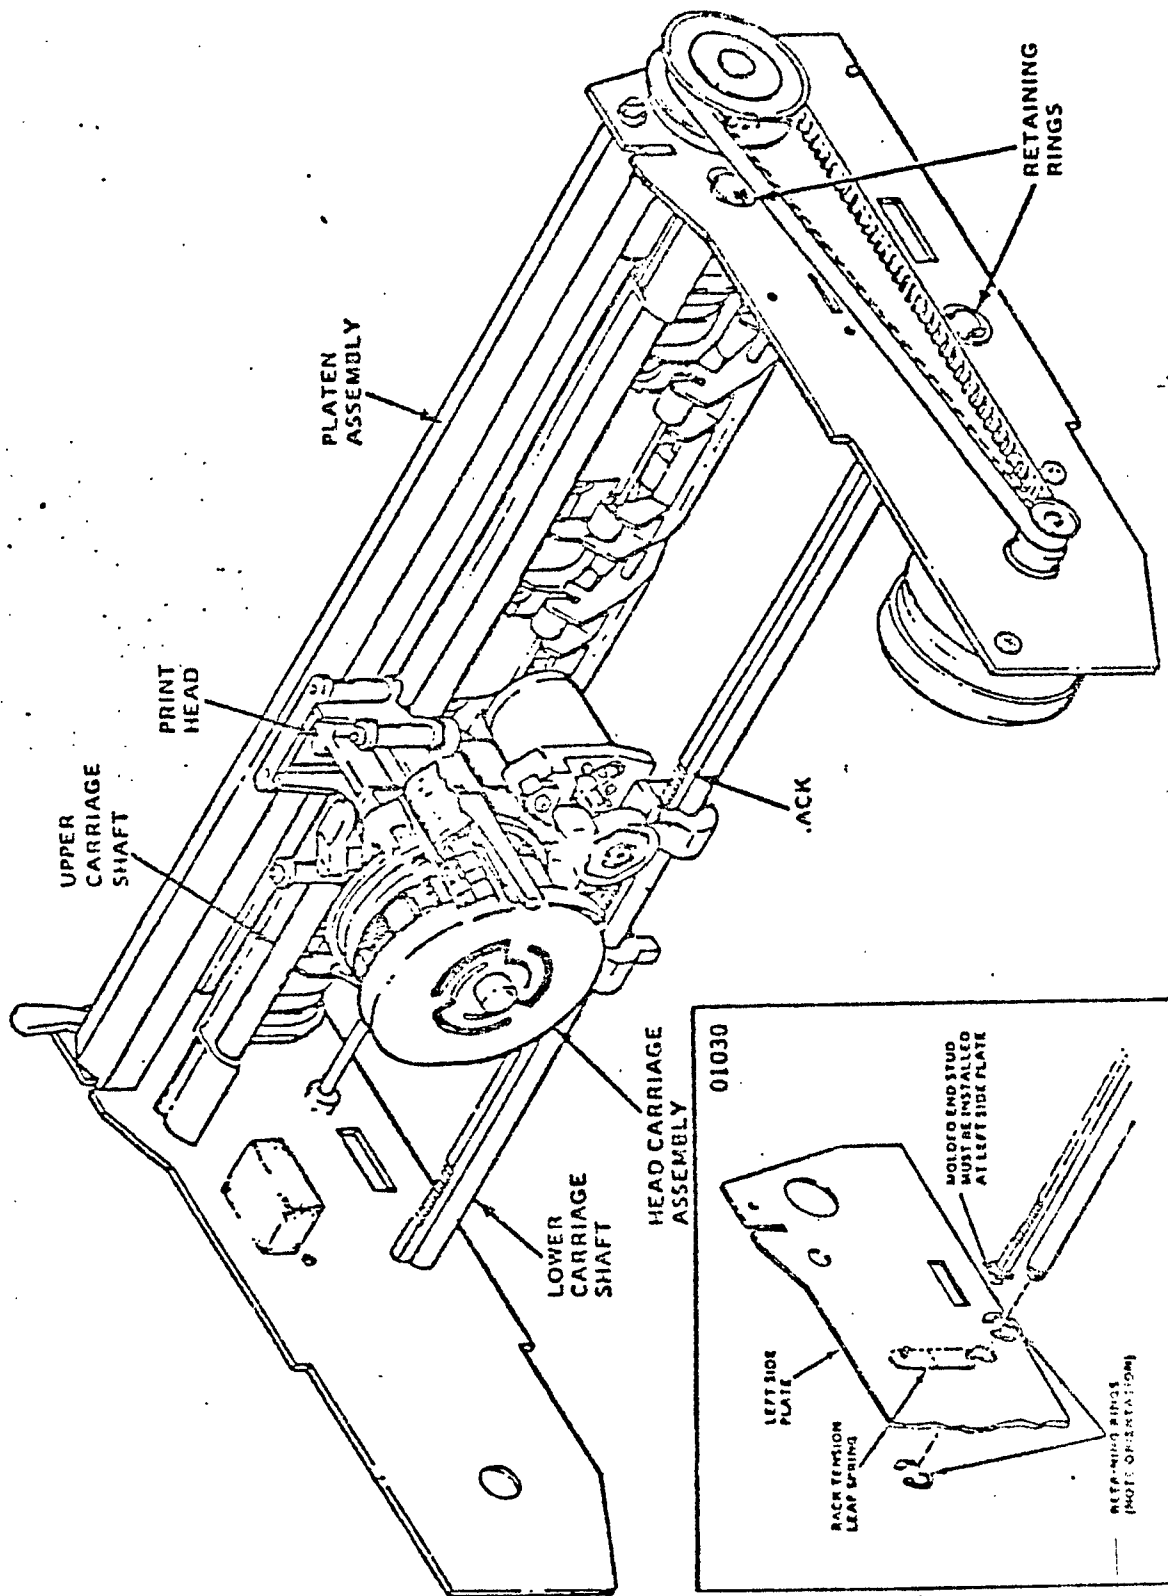

FIGURE 5-7. HEAD-CARRIAGE ASSEMBLY REPLACEMENT
5.8 HEAD-CARRIAGE ASSEMBLY (Reference Figure 5-7).